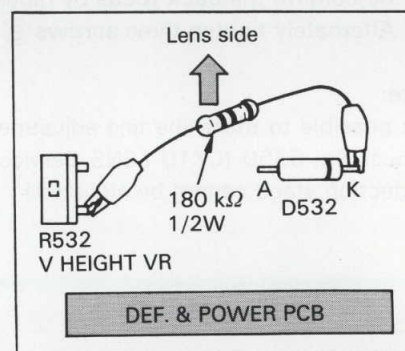

Fig. 3-7-2 Connection of R jumper
- (1) Connect the **R jumper** to both ends of **R533** on DEF. & POWER PCB.
* Connection as shown in **Fig. 3-7-2** is more practical instead of shorting **R533**. At this time, the power switch of the camera has to be set to stand-by.